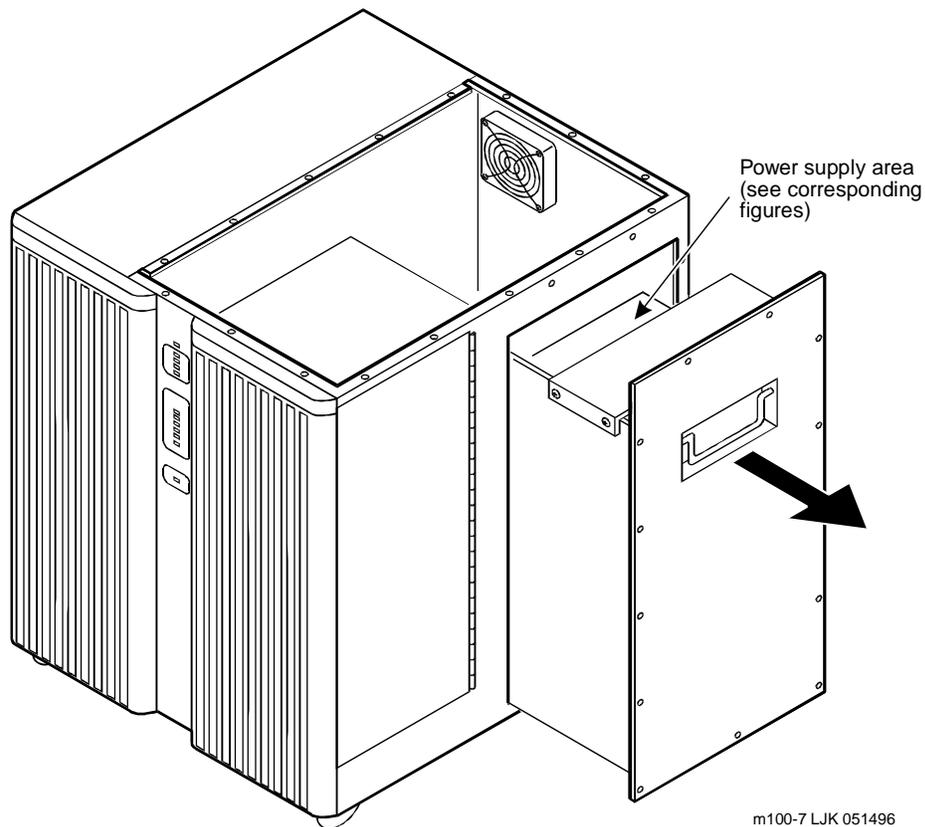

Figure A-1. Power Supply with Battery Backup
- Grasp the steel framework of the peripheral bay and carefully pull the entire peripheral bay out while observing that no cable “hang-ups” occur. Continue pulling the assembly forward until it is against its mechanical stop. See Figure A-1. Note that this text does not use any corresponding figures.